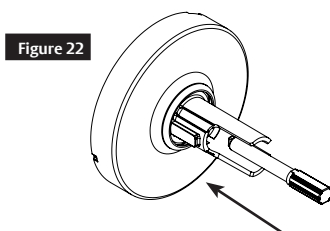

Figure 22
2. Insert adjustment tool (provided with lock) into interior cap located within the shank (Figures 22 & 23).